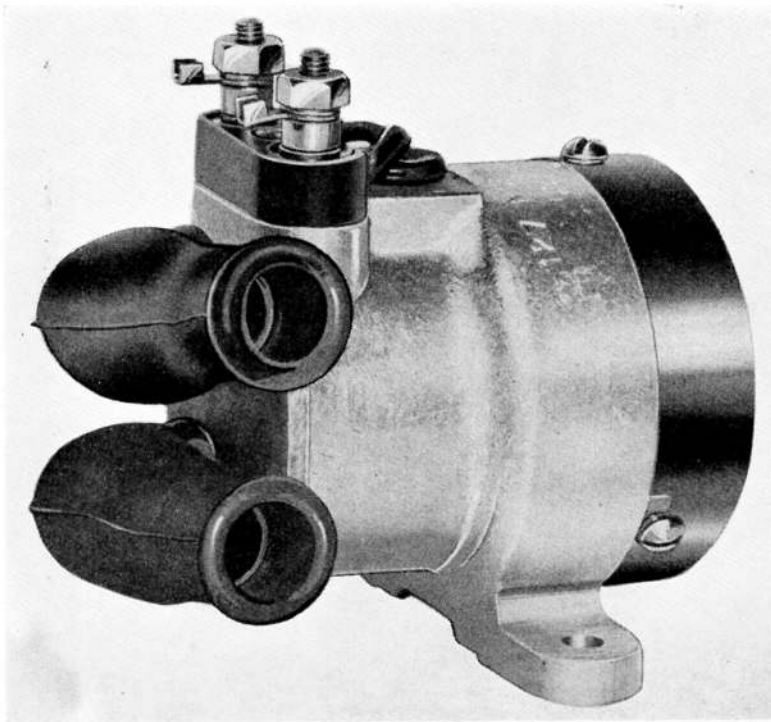
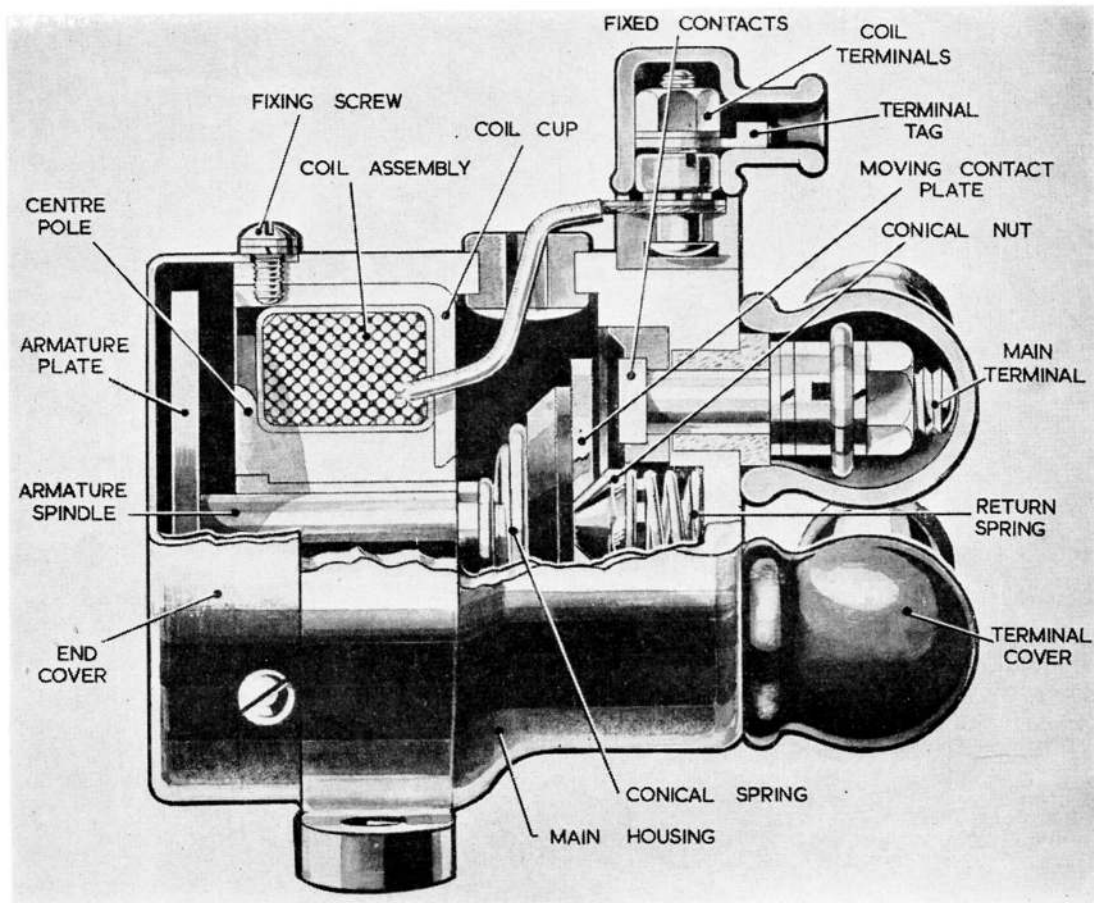

Fig. 1. Switch, magnetic relay, Rotax D0213
Fig. 2. Sectional view of switch
2. A general view of the switch is shown in fig. 1, whilst fig. 2 shows a sectional drawing to which reference should be made when reading the following descriptive paragraphs.